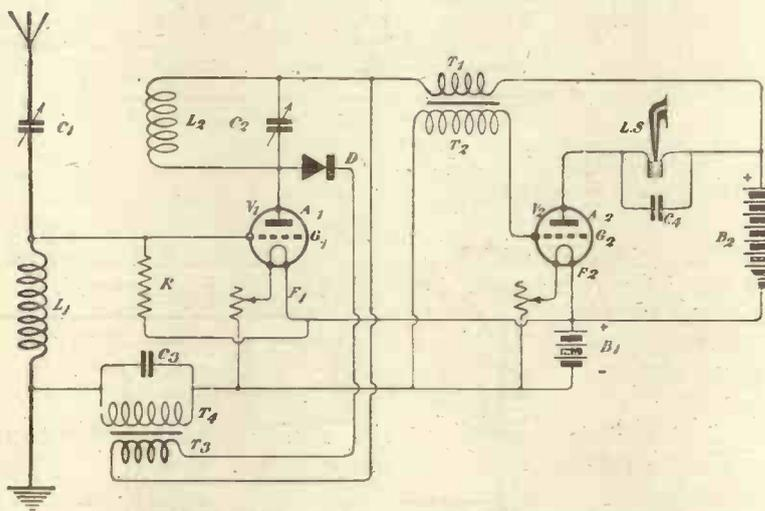

Fig. 1.—Simplified arrangement of the ST 100 circuit.
**T**HE simplified arrangement is shown in Fig. 1, which is reproduced from June 13th issue of *Wireless Weekly*.